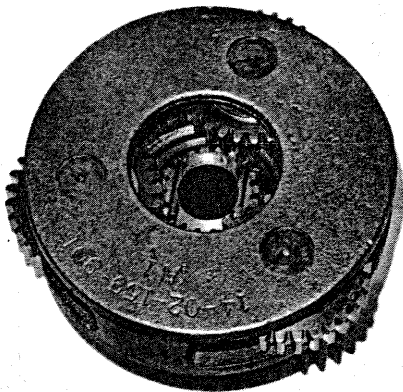

Figure 11 Assemble snap ring
**STEP 13** Spread the snap ring which should be held centered as sun gear is assembled into position. Snap ring should be seated in groove of sun gear, (Figure 11).